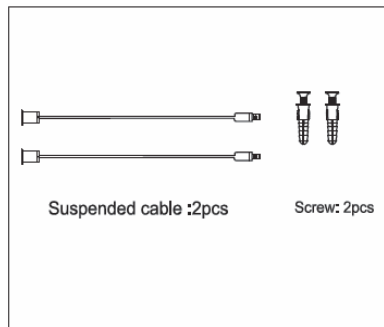

Figure 2.
2. Attach the suspension cables to the mounting bolts. **See figure 2,3.**